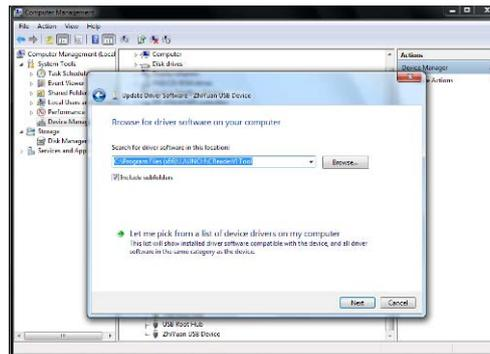

Figure 5-9
3. Select "Browse for driver software on your computer" manually, as shown in Figure 5-9: